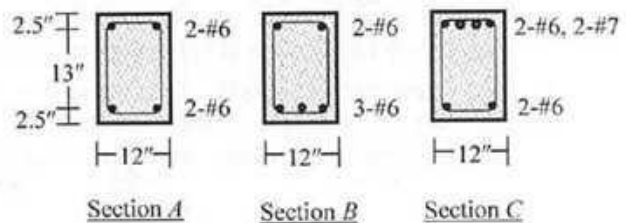

Fig. 2
6. Design and detail a singly reinforced beam section at mid-span with a simple span of 30' to support a dead load of 1.00 k/ft (excluding self weight) and a live load of 2.0 k/ft (see Figure 2). Width of the beam = 12 inch (architectural requirement). Use ACI/USD method.
Figure 2 for Question 6
- (i) as shown in Section C of Fig. 2, (ii) by only the tension bars in Section C of Fig. 2.
- (i) calculate the total load (w_u) for Section B (Fig. 2) to reach its ultimate moment capacity, and
7. Fig. 2 shows cross-sections A , B and C of beam ABC (made of normal-weight concrete and uncoated bars) supported by $12''$ square columns at A and C .